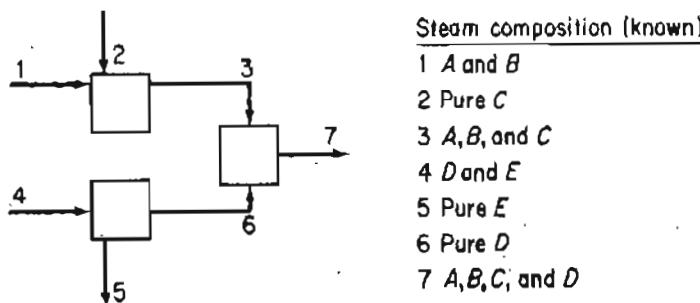

Figure P11.3
- **11.3 What is the maximum number of independent material balances that can be written for the process in Fig. P11.3? The stream flows are unknown.